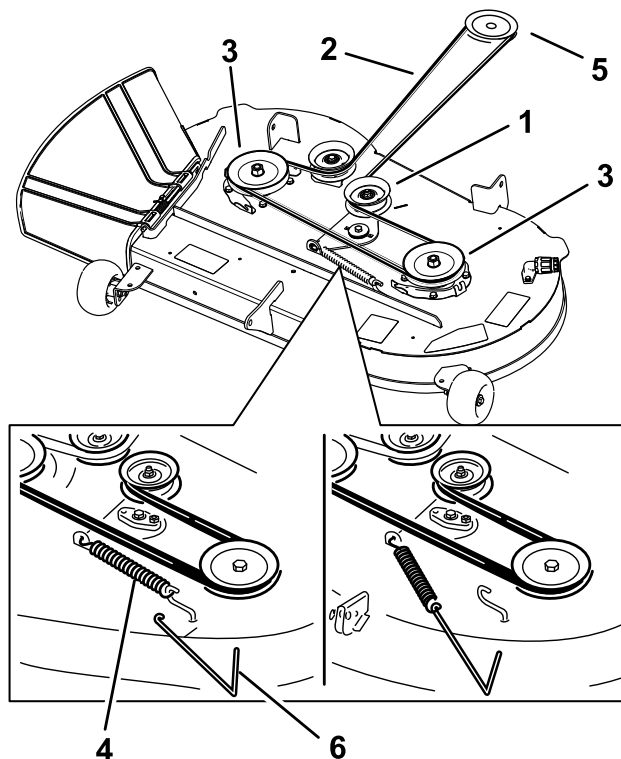

Figure 50
6. Route the new belt around the engine pulley and mower pulleys (Figure 50).
7. Using a spring-removal tool (Toro Part No. 92-5771), install the idler spring over the deck hook and place tension on the idler pulley and the mower belt (Figure 50).
5. Using a spring-removal tool (Toro Part No. 92-5771), remove the idler spring from the deck hook to remove tension on the idler pulley, and roll the belt off the pulleys (Figure 50).